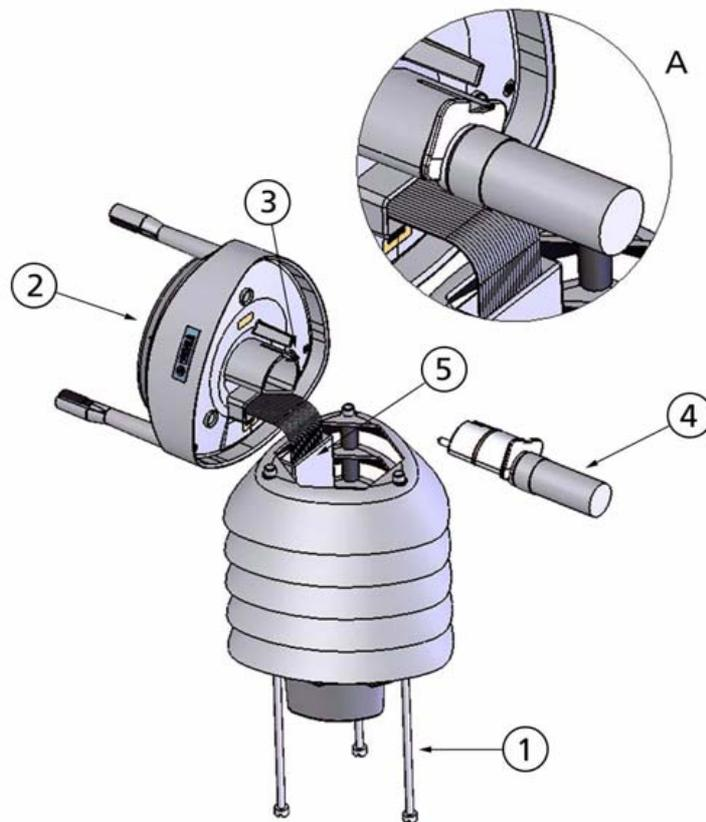

Figure 7 Assembling WXT510
3. Remove the vacuum bag protecting the PTU module. Connect the new PTU module. Make sure the module goes all the way in and is locked into its position with the small white latch (see section A in Figure 7 on page 28).